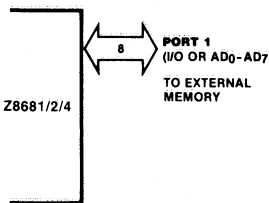

Figure 8. Port 1
**Port 1** is a dedicated Z-BUS compatible memory interface. The operations of Port 1 are supported by the Address Strobe ( $\overline{AS}$ ) and Data Strobe ( $\overline{DS}$ ) lines, and by the Read/Write ( $R/\overline{W}$ ) and Data Memory ( $\overline{DM}$ ) control lines. The low-order program and data memory addresses ( $A_0-A_7$ ) are output through Port 1 (Figure 8) and are multiplexed with data in/out ( $D_0-D_7$ ). Instruction fetch and data memory read/write operations are done through this port.